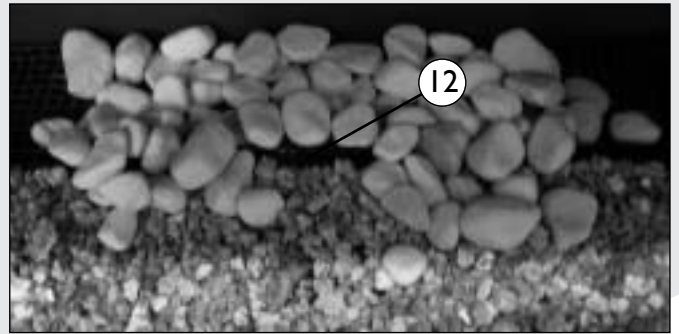

fig. 11
- Fill the burner tray and the surrounding tray with the white carrara stones, (figs. 11 and 12). Distribute the stones in a single layer. Stones on top of each other will distort the flame effect.
- Make sure that there are no stones in front of the opening of the (oxypilot) pilot light burner (12) as this could prevent the pilot light from working properly (figs. 11 and 12).